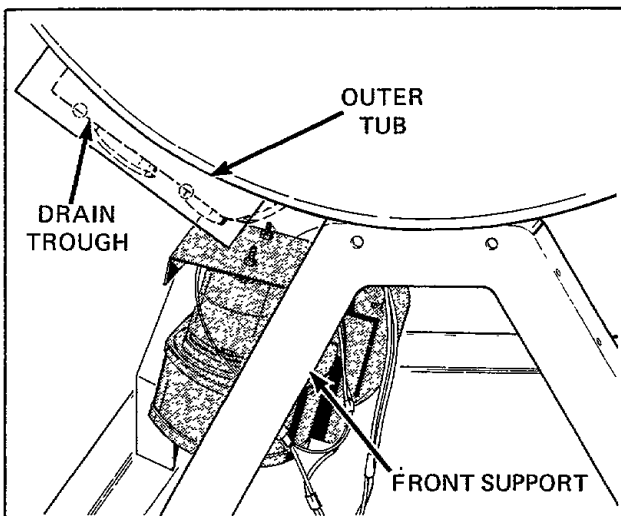

Figure 41
- p. Grasp outer tub at dispenser opening and loading door opening, rotate clockwise far enough for drain trough to clear front support, *Figure 41*, and pull outer tub off cylinder.